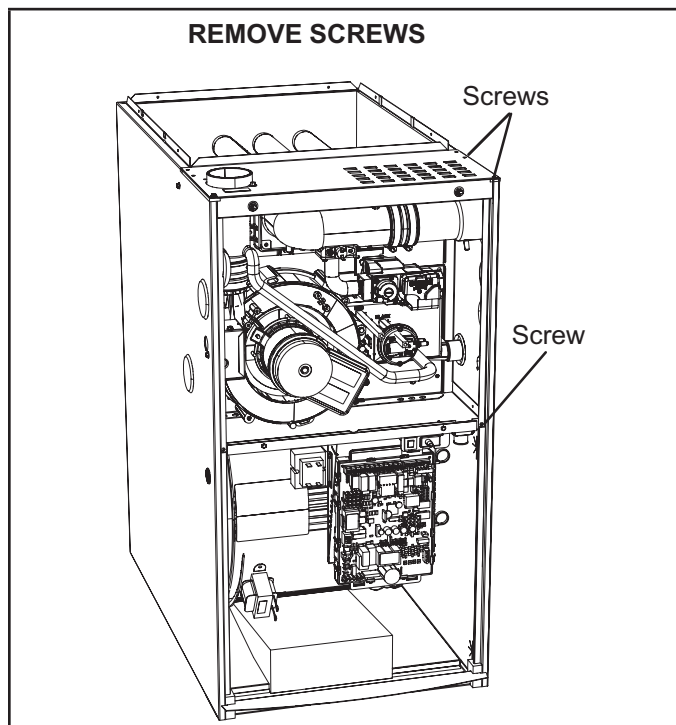

FIGURE 46
- 5 - Remove the air intake coupling. If the air intake coupling is still too difficult to remove, then remove the two screws from the right side of the top cap and one from the far right side of the blower deck that attaches to the cabinet. See FIGURE 46. Carefully pull cabinet side away from air intake coupling, then remove the air intake coupling. **Note: Be careful not to bend the cabinet side.**